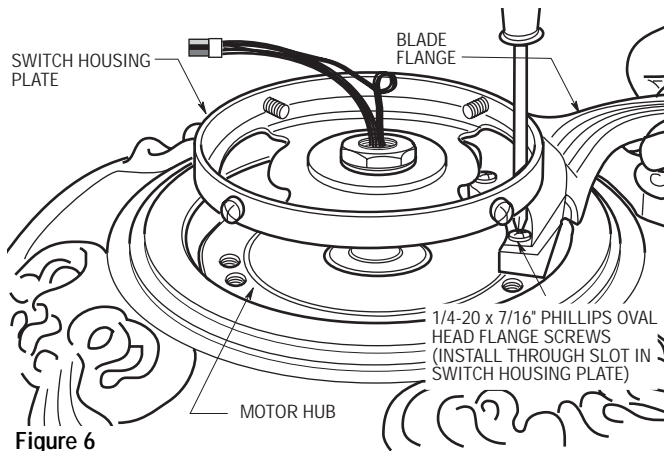

Figure 6
- 9. Rotate the motor hub until the flange screw hole is visible through one of the slots in the switch housing plate. Loosely attach one blade assembly to the motor hub using two 1/4-20 x 7/16" Phillips oval head flange screws (Figure 6). Make sure the screws are NOT tightened. Repeat this procedure for the other four blade assemblies.